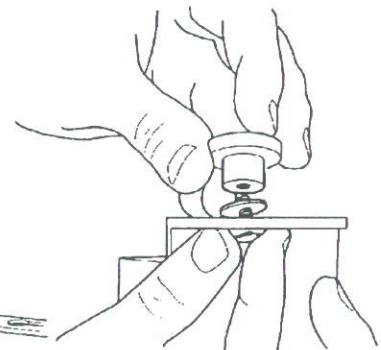

Fig.12
11. Install the knob (18), washer (17) and carriage bolt (16) in the fence stop, shown in Fig.12. Do not tighten the knob.